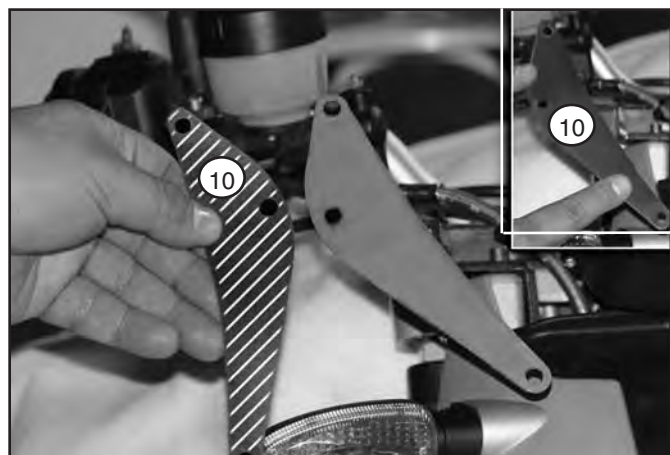

Figure 7
9. Remove paper backing from a gasket. Apply right and left gaskets to the arms of the main bracket and to the inside of each front plate. **Figure 7**